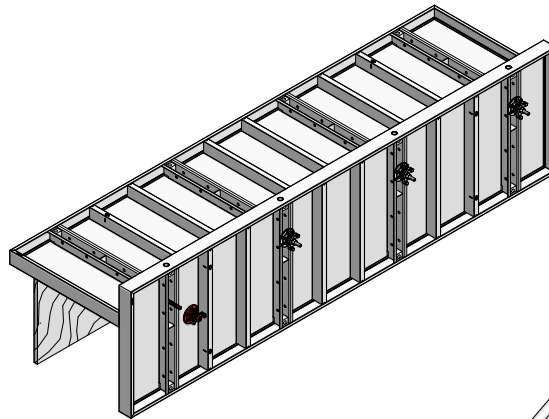

Fig. 42.1
2. Connect the two panels with the tensioning screw M350/EA and articulated flange nuts or flange nuts. Always place tensioning screws in every tying position (Fig. 42.1).